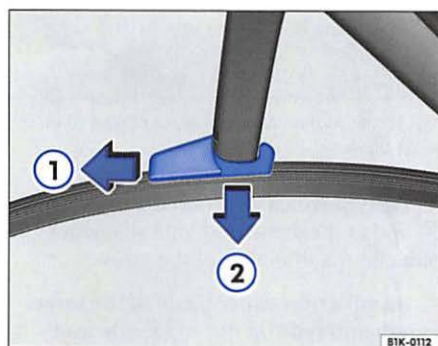

Fig. 13 Replacing rear wiper blade
- Release the wiper blade in the direction of the arrow  fig. 13 .